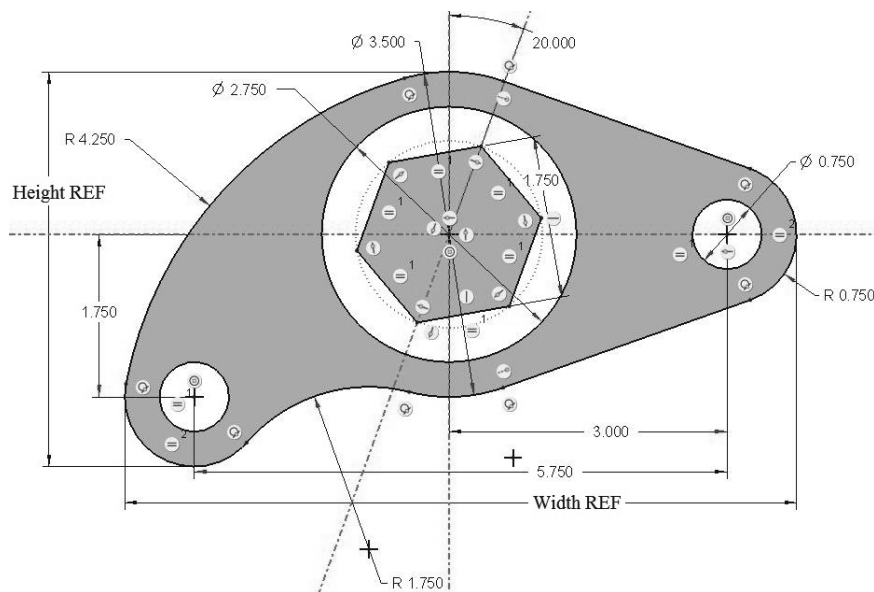

Figure 3-73 Problem 4—Rocker Arm
- 3.4 Draw the front view of "rocker_arm" (Figure 3-73). Draw the centerlines first. **Design Intent**—The hexagonal shaped hole of the rocker must be offset by 20 degrees as shown. The right 0.75-inch diameter hole must be 3.000 inches from the center hex shape. **Design change:** The left 0.75-inch diameter hole must be 5.875 inches from the right hole instead of 5.750 inches as shown. What is the overall height and width of the rocker arm? (>File>Options>Sketcher, change to 3-decimal places before sketching.)